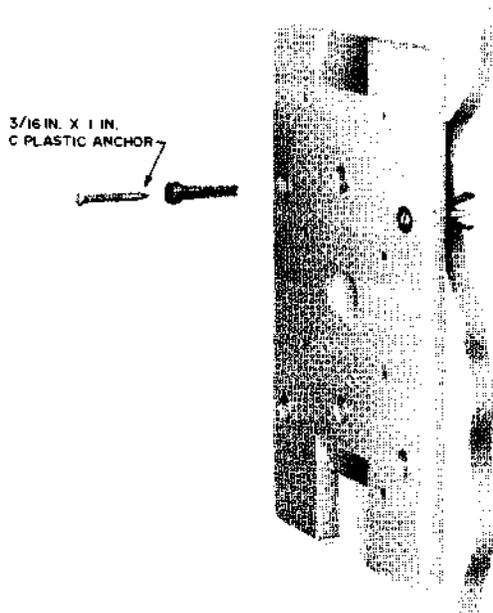

Fig. 26 – C Plastic Anchor, 168F Backboard
* Small head to fit 168 backboard or 42A connecting block (Fig. 26 and 28).